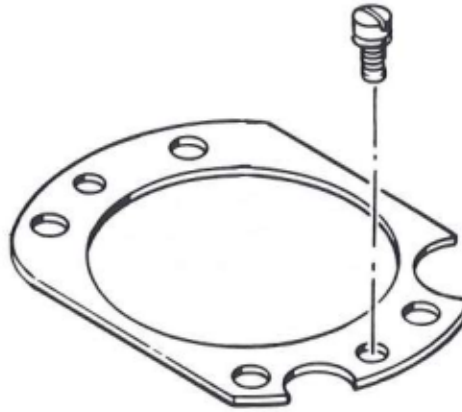

Figure 3-13. Coil Centering Ring
- 1). Remove the two screws (635) securing the control signal Terminal Block No. 3 (633) to the housing (625).
- 2). Remove the nylon spacers (632).
- 3). Unsolder the black and white coil wires from the positive and negative terminals of Terminal Block No. 3 (633).
- 5). Remove the rust-colored insulation ring (631).
- 6). Carefully pull the black and white coil wires and three potentiometer wires (if so equipped) up through the port under Terminal Block No. 3 (633) to the top of the control plate (606).
- 8). Remove the four hex head cap screws (605) from the control plate (606).
- 9). Remove the slotted head screw closest to the shaft from the coil centering ring (see Figure 3-13).
- 1). Insert a new O-ring (16) and shaft seal (17) into the seal retainer (610) and replace it into the bottom of the control plate (606).
- 2). Place the four small O-rings (3) over the 1/4" bolt holes in the housing (625).
- 4). Carefully install the large control plate O-ring (2) in the groove at the top of the housing. **Do not get oil on this large O-ring or the four small O-rings (giving the appearance of a leak).**
- 5). Install the control plate (606) and secure it with four 1/4" hex head screws (605).
- 6). Remove the Control Plate Removal Clamp (P/N 109795P) and replace the screw in the centering ring (see Figure 3-13).
- 7). Insert a small wire up from the electrical compartment through the small force motor coil wire hole at Terminal Block No. 3 (633). Form a small hook on the end of the wire, then pull the black and white control wires down through the hole. Before disconnecting the hook, slip the black sleeving\* over the wires and push it up into the housing. Disconnect the hooked wire.